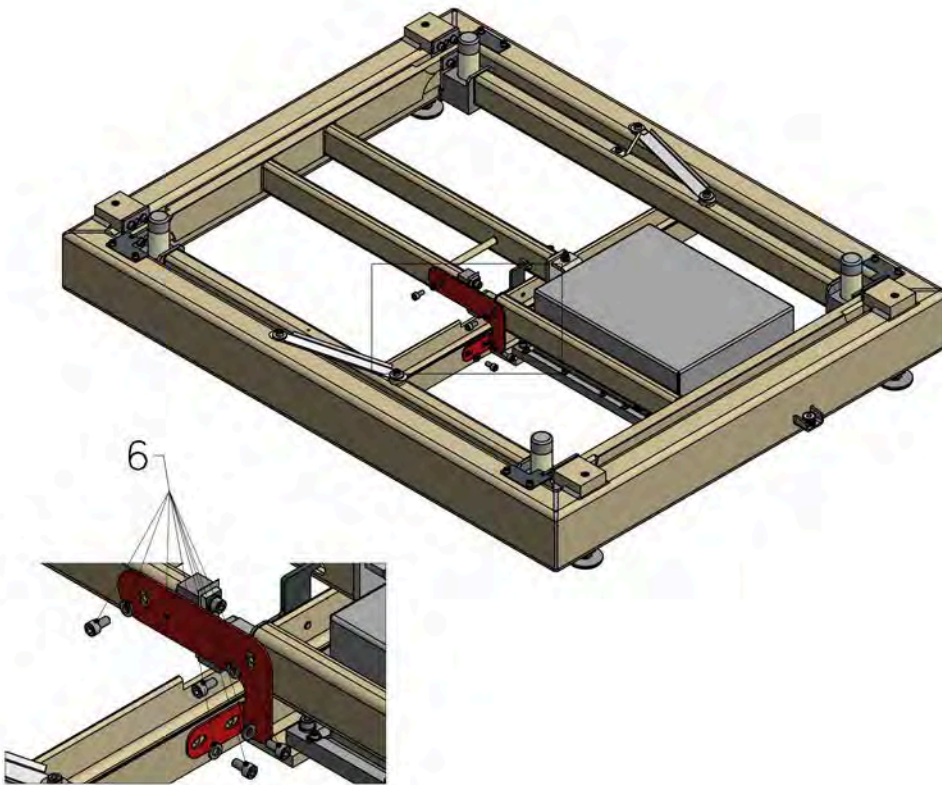

Fig.4
4. Unblock mass comparator by unscrewing bolts (6). (Fig.4)